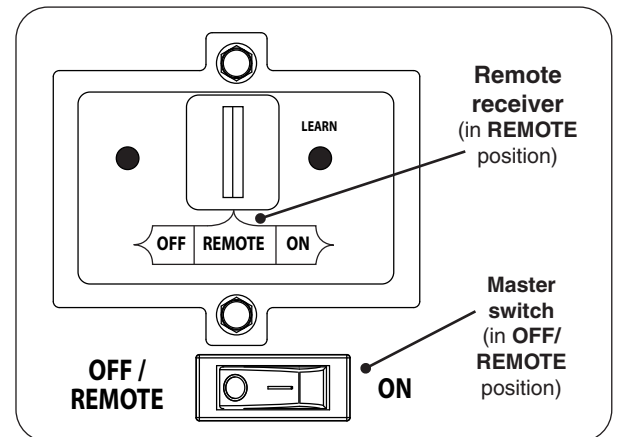

Fig. 43-1 Control panel detail
1. Ensure the master switch is in the **OFF/REMOTE** position (see Fig. 43-1).
2. Locate the 3-position switch on the remote receiver (see Fig. 43-1), and slide the switch to the **REMOTE** position.